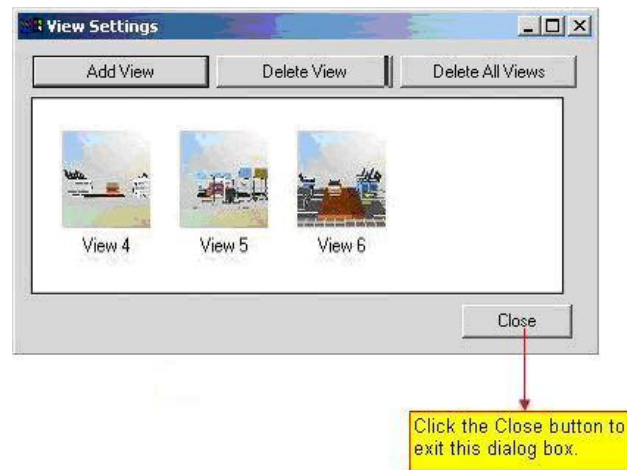

Figure 122: Saving View Settings
- 1) Open the **Save view settings** dialog using the **Graphic** menu. *Please refer to the Figure 122.*
- 4) Either click icon in the toolbar or open it using the **Graphic** menu. The **Save view settings** dialog box is opened. Please refer to the Figure 122.